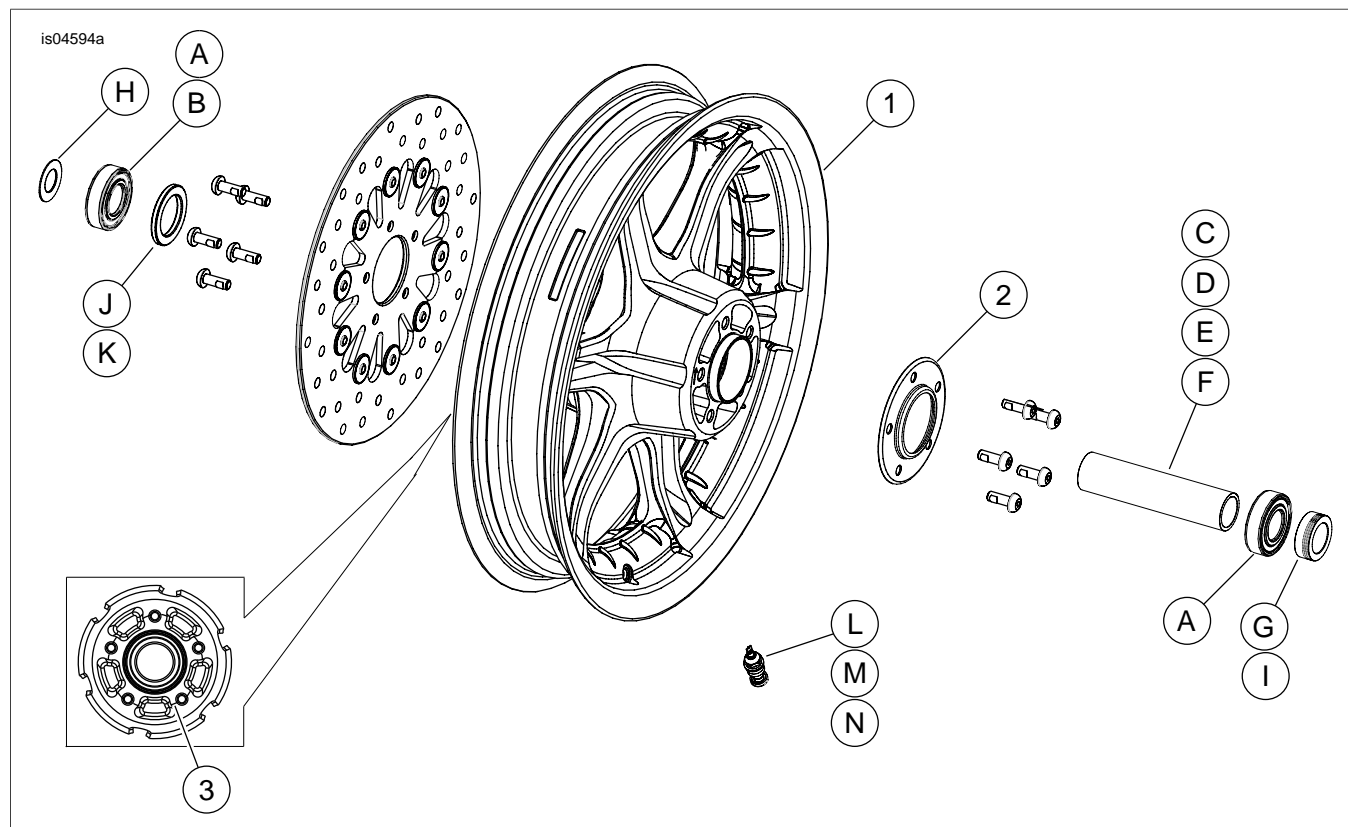

Figure 2. Service Parts: Front Slotted Six-Spoke Wheel (16-inch wheel shown)
2. See Figure 2. Install valve stem assembly (L, M or N) on wheel. Refer to TIRES in service manual.